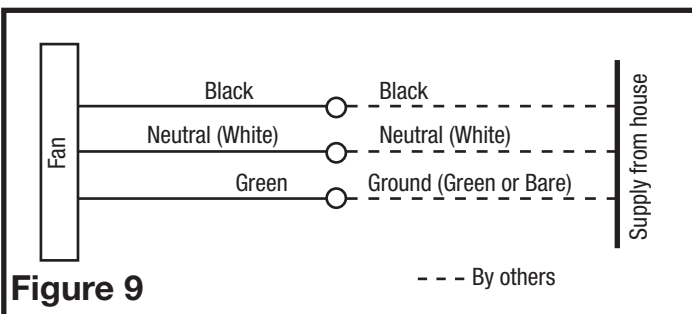

Figure 9
- 2b. From where you have chosen to access the fan's junction box, connect the White wire from the house to the White wire from the fan's receptacle. Connect the Black wire from the wall switch to the Black wire from the fan's receptacle. Connect the ground wire from the house to the Green wire from the fan's receptacle (**Figure 9**). Use approved methods for all connections.